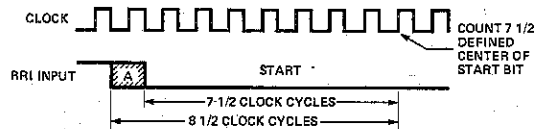

FIGURE 9. Start Bit Timing
The receiver uses a 16X clock for timing (see Figure 9.) The start bit (A) could have occurred as much as one clock cycle before it was detected, as indicated by the shaded portion. The center of the start bit is defined as clock count 7 1/2. If the receiver clock is a symmetrical square wave, the center of the start bit will be located within $\pm 1/2$ clock cycle, $\pm 1/32$ bit or $\pm 3.125\%$. The receiver begins searching for the next start bit at the center of the first stop bit.